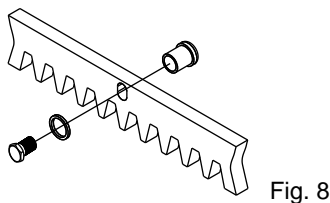

Fig. 8
**6.2.** Fix to each gear rack element the support pawls using the appropriate lock screws, taking care to place them in the upper part of the hole (Fig. 8);